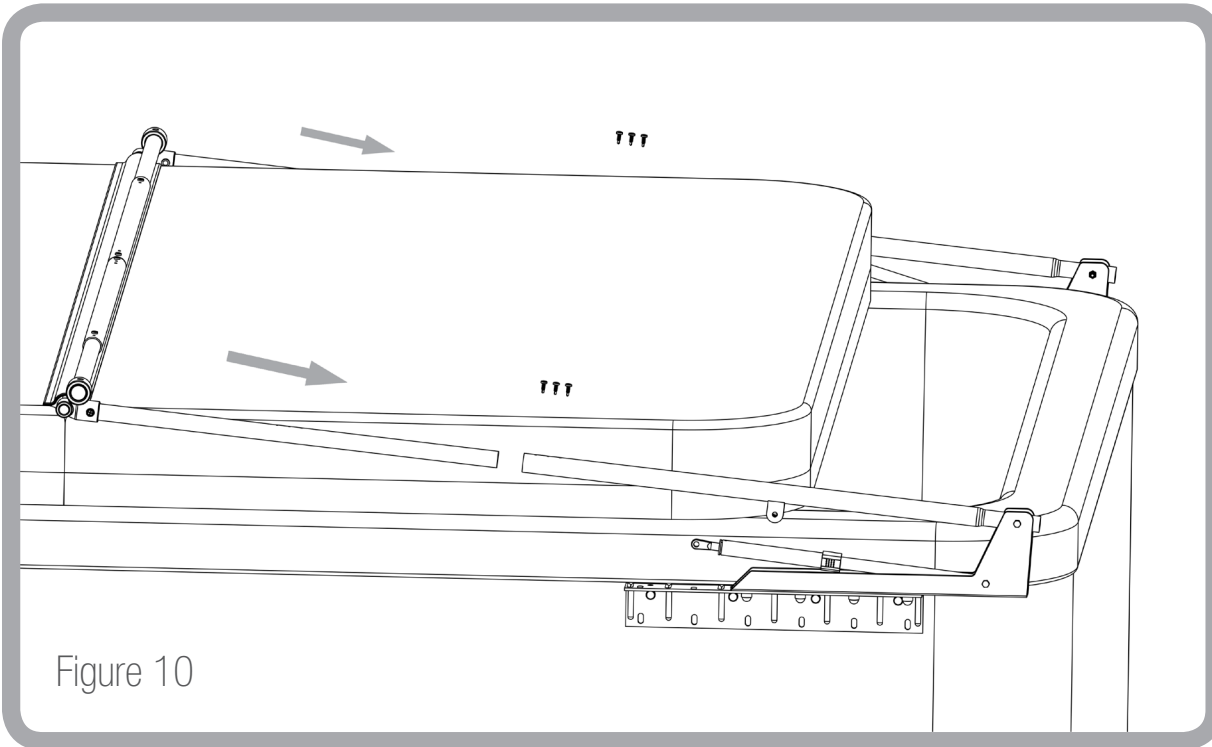

Figure 10
- Slide the Extension Arm (cvDD) into the Pivot Arm (cvCC), making sure to center the spa cover over the spa. See Fig 10.